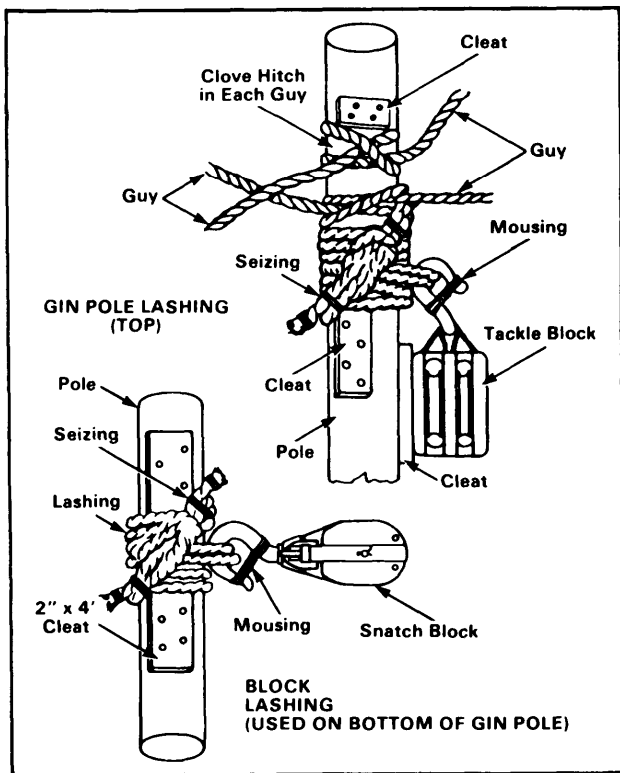

Figure 9-4. Shear, block, and gin pole lashing
4. Refer to Figure 9-4 (page 9-5) for lashing details.